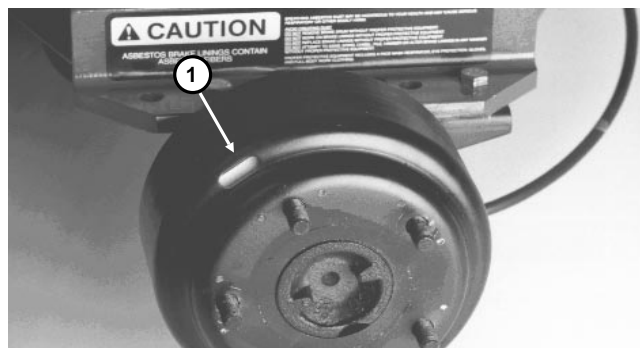

Figure 13
4. Loosen (do not remove) the five (5) wheel lug nuts.
6. Remove wheel nuts and slide wheel off the studs. Rotate the brake drum until adjusting slot is at the top and centered over star-nut (Fig. 13).